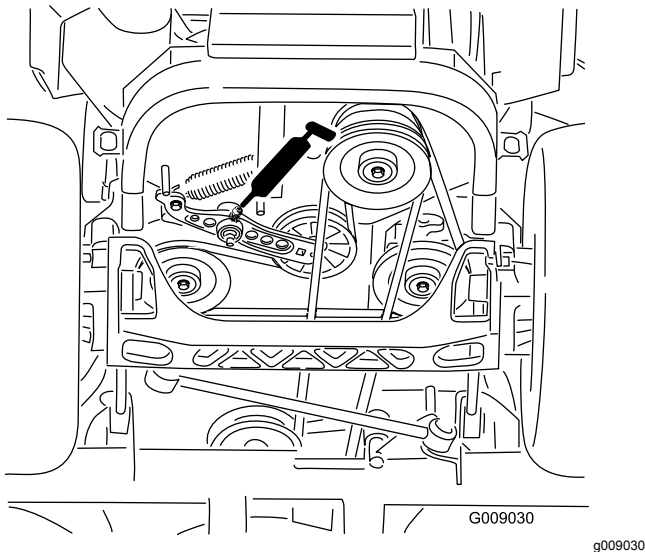

Figure 42
4. Grease the drive-belt-idler arm (**Figure 42**).